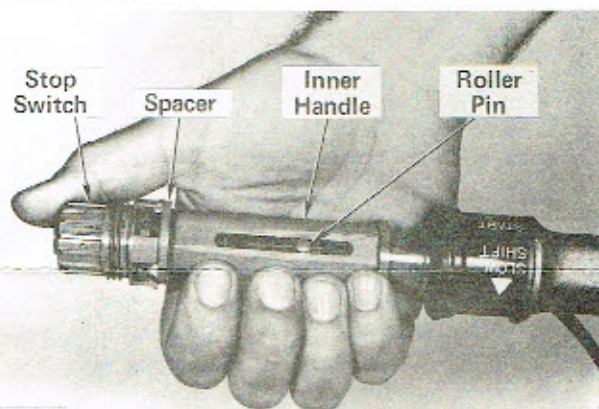

Figure 2
2. Install stop switch into inner handle. Tab on switch goes into recess of inner handle. See Fig. 2.
4. Push roller pin through cable end. See Figure 2.